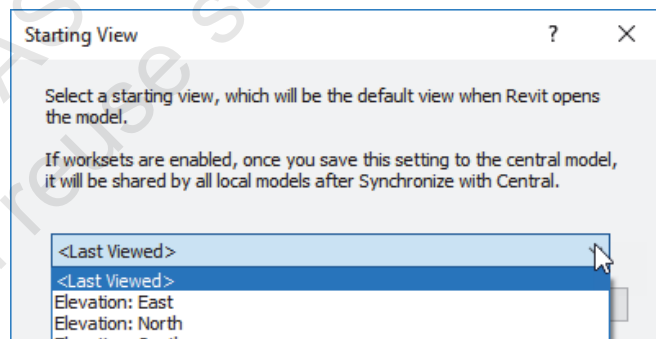

Figure 1-95
3. In the Starting View dialog box, select the view or sheet that you want to use, as shown in Figure 1-95.